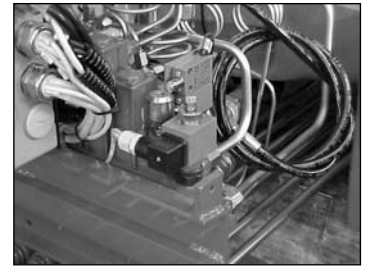
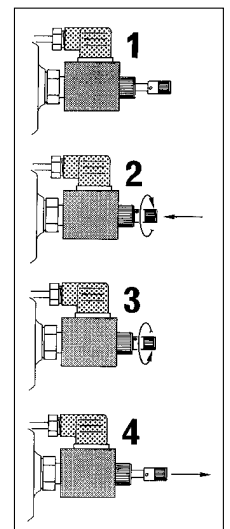

fig. 22
fig. 22a
On the distributor it has been installed an electro-valve with a manual locking function (fig. 22) which allows to reactivate all the crane functions in case of absence of the electric power. Only in these conditions it is permitted to remove the lead seal which protects the device. Push the button and turn it into the clockwise sense (fig. 22a pos. 1-2); the button stays in stable and closed position.
- (!) **When the electric power is reestablished, remember to put the button in its original position, turning it into the anti-clockwise sense. (fig. 22a pos. 3-4)**